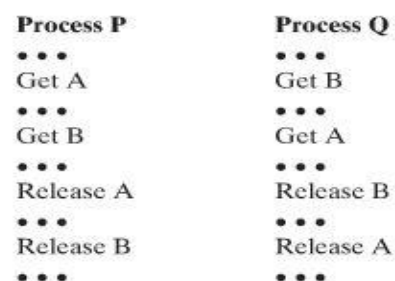

Fig. 5B
- 5B. What is dead lock? For the given instruction sequence given in Fig. 5B, explain deadlock with the help of a diagram.